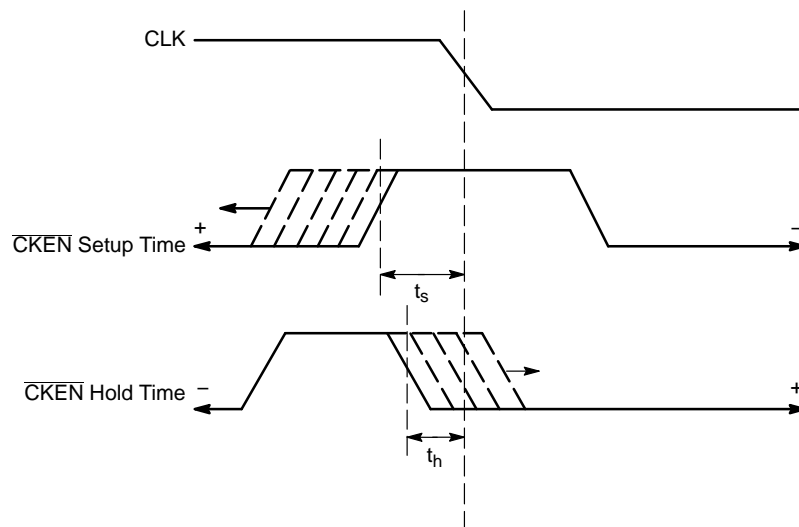

Figure 6. \overline{CKEN} Setup and Hold Time
Upon power-up, the internal flip-flops will attain a random state. To synchronize multiple flip-flops in the device, the Reset (pin 1) must be asserted. The reset pin will disable the internal clock signal irrespective of the CKEN state (CKEN disables the internal clock circuitry). The device will grab the first stream of data after the falling edge of RESET^①, followed by the falling edge of CLK^②, on second rising edge of CLK^③ in either CKSEL modes. (See Figure 6)